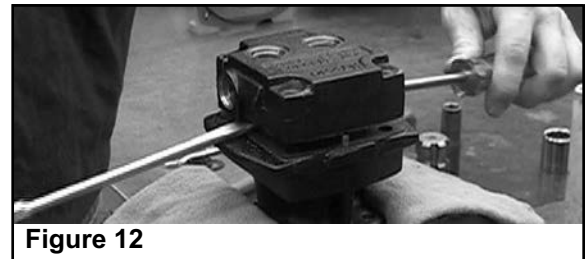

Figure 12
6. If Motor End Plate will not lift off easily, use a small screwdriver to carefully pry apart the boss portion of the End Plate and Gerotor Housing until free (See Figure 12). If Gerotor Housing will not lift off easily, carefully pry apart the boss area between the Gerotor Housing and the Motor Body. (It may be necessary to alternate sides when prying apart Motor sections.)